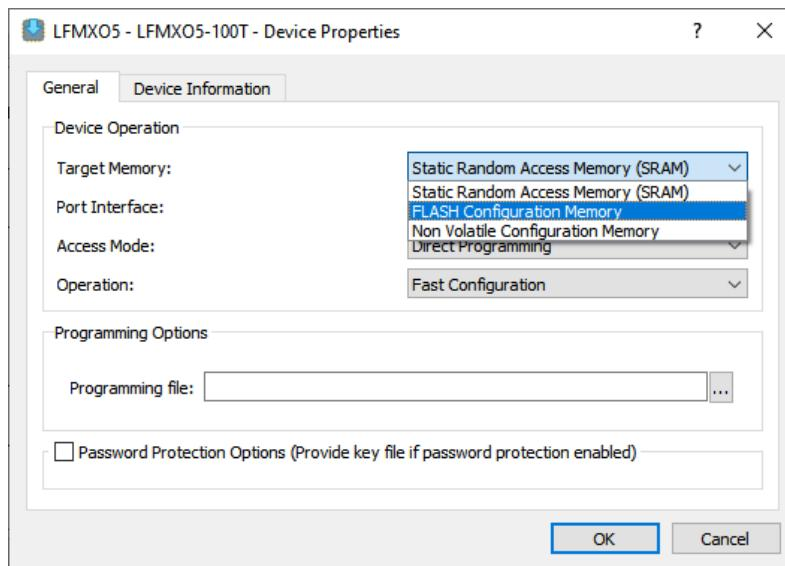
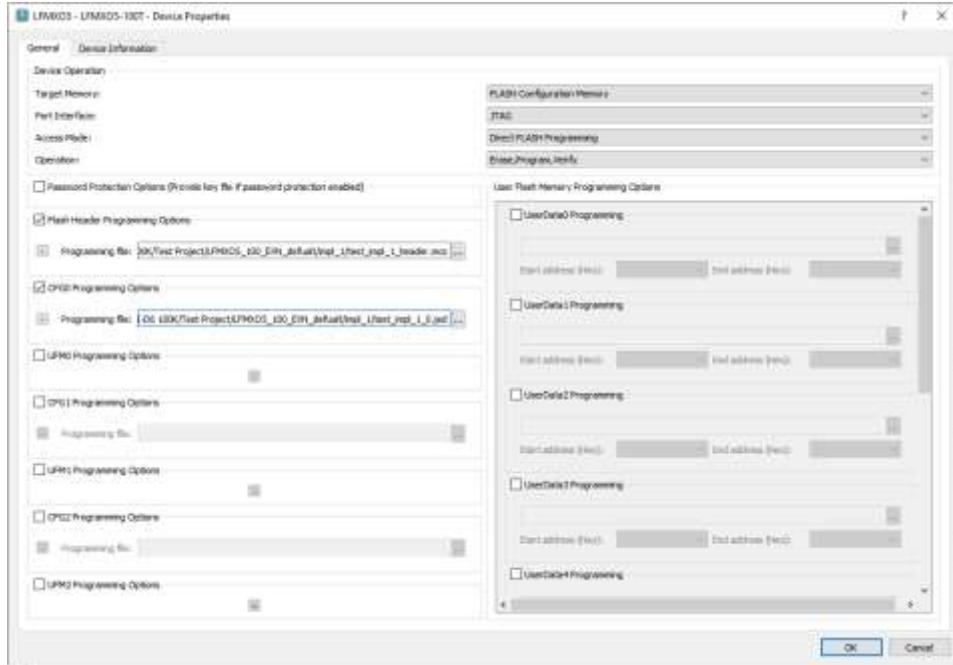

Figure 11.5. Radiant Programmer – Select Target Memory for Device Properties
Figure 11.6. Radiant Programmer – Device Properties for FLASH Configuration Memory
6. Open the **Device Properties** dialog box by double click **Operation** column. Select **FLASH Configuration Memory** from **Target Memory** drop-down list in the **Device Operation** area, as shown in Figure 11.5. You can then see the **Device Properties** dialog showing FLASH Configuration Memory details (Figure 11.6).
- **Operation** is *Erase, Program, Verify*;and select target **User Flash Memory Programming Options** according to Figure 11.6.